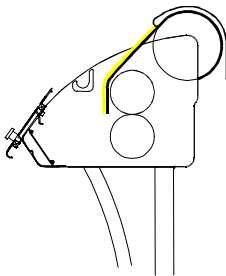

Figure 19
2. Split the film from the release liner, flip the liner back (fig.19) and pull the film evenly across the face of the rollers.